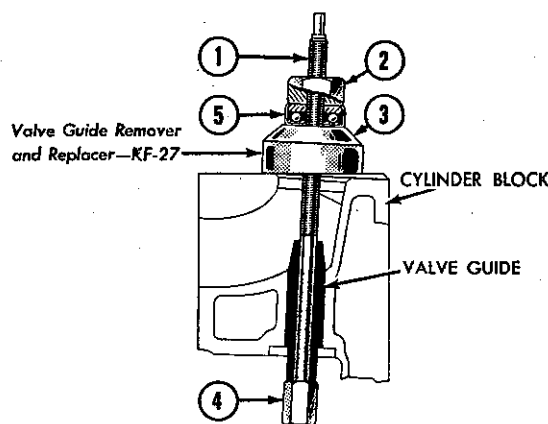

FIG. 62—REMOVING VALVE GUIDE FROM CYLINDER BLOCK
Damaged, loose, or worn valve guides must be replaced. The guides may easily be removed with Valve Guide Remover and Replacer KF-27 (Fig. 62). If a valve guide is loose in the cylinder block, the valve guide bore should be reamed and an oversize guide should be installed.
Assemble the tool as shown in Fig. 62, using the angular spacer (3), with the thickest part of the spacer toward the manifold side of the cylinder block, and the small nut (4) at the end of the shaft inside the valve chamber. Be sure to place the thrust bearing with the rotating face toward the nut on the outside end of the tool. Hold the shaft (1) to prevent rotation and tighten the nut (2) until the valve guide top end is  $1\frac{1}{32}$  inches [30,95 mm.] below the top face of the cylinder block.